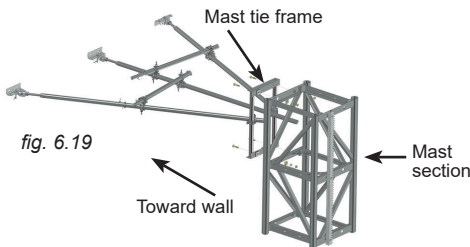

fig. 6.19
- 1- Align the holes on the mast tie frame with the holes on the mast section. Attach the mast tie frame to the mast section with assemblies of bolts, square washers, lock washers and nuts (4) (fig. 6.19). Tighten all bolt assemblies with a torque of 80 lb-ft (108 N-m).